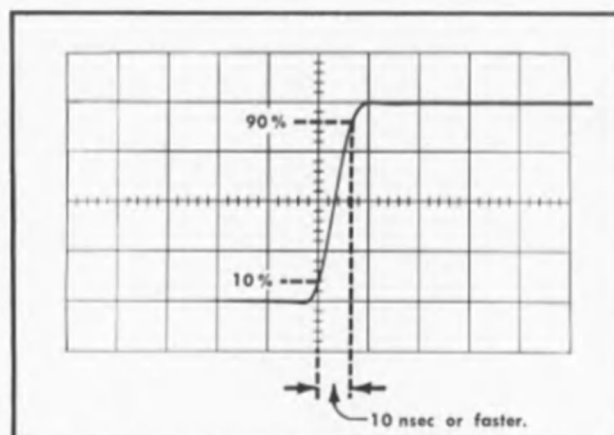

Fig. 5-20. Measuring the risetime of a normal waveform when SW1000 is actuated; sweep rate is  $10 \text{ nsec/cm}$ .
- b. Depress Transient Response Compensation Switch SW1000 (located at the bottom of the plug-in compartment rear panel). Check the risetime of the step waveform from the 10% to 90% points on the rising portion of the waveform (see Fig. 5-20). Overall risetime should not be any slower than 10 nsec.